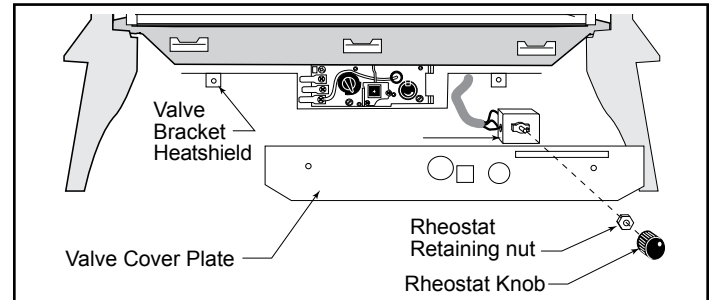

Figure 45 - Attach fan rheostat to valve cover plate.
3. Pass the rheostat cord under the firebox. Remove the valve cover plate by removing two (2) screws from the cover plate. Remove the rheostat knob and retaining nut from the rheostat assembly. Pass the stem of the rheostat assembly through the lower hole at the right side of the valve cover plate, and align the locating pin with the smaller hole. Fasten the stem with the retaining nut. (Figure 45)